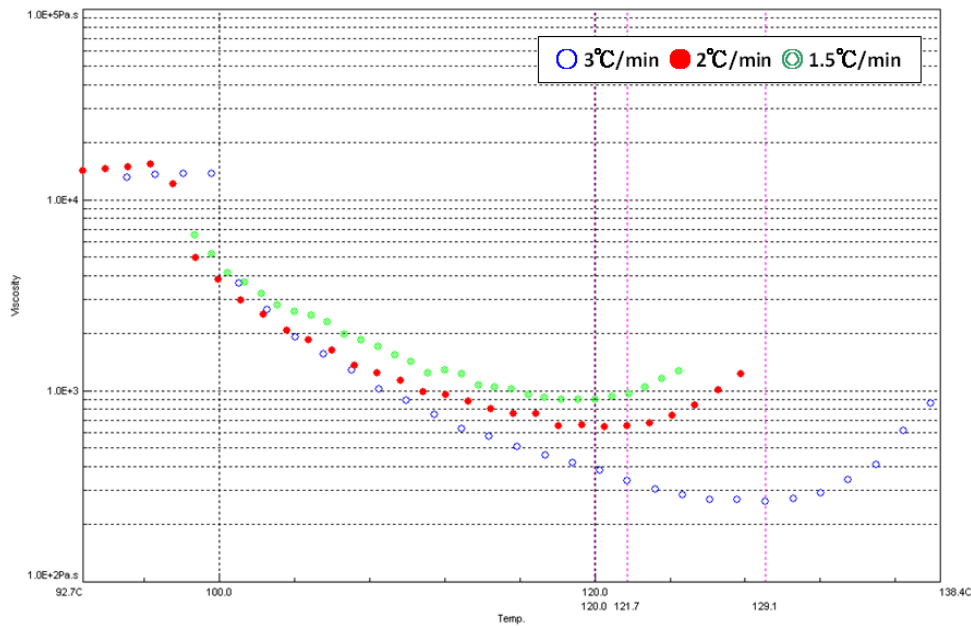

Figure 2. Dynamic viscosity at 1.5-3°C/min
- (3) For those PCB manufacturers who use hot start (more than 180°C), lowering 25-50 psi is proper. However, for some of PCB manufactures may be proper to get pressure drop for 100 psi that is also workable. Provide full pressure at $90\text{-}120^{\circ}\text{C}$ by product temperature (not platen temperature) is recommended.
- (4) The resin flow properties of this material would help to filled resin for heavy copper application, thus we suggest setup even higher level than above recommended press cycle, and please making cross section to check if the glass fiber sticks on the inner layer copper, especially for more than 2oz inner layer. 5um butter core at least or more is recommended and it will enhance thermal reliability.
- (5) For the construction of multi-ply ultra heavy glass (7628) and with ultra high resin content, we estimate that have more resin flow of the board edge, but doesn't influence the reliability, however, we suggest to use bigger copper foil or to move the full pressure down, that could be avoid resin to stick steel platen.
- (6) The dynamic viscosity at $1.5\text{-}3^{\circ}\text{C}/\text{min}$ (**Figure 2.**) are shown as below for user's reference.
(7) Each single press will possibly have different temperature rise curve. Therefore, to trace heat rise and Tg in middle and outer laminates with thermal couple as well as cross section which can confirm the results are reliable.